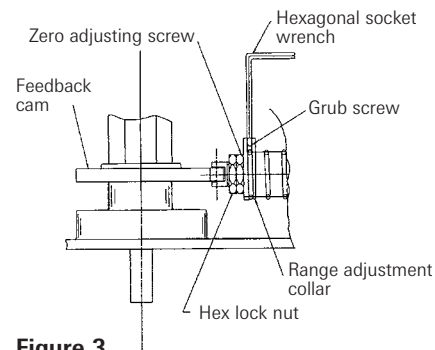

Figure 3
6. If the actuator does not reach the OPEN position at 15 psig, this is indicative of the spring rate being too high. Loosen the grubscrew in the range adjustment collar, (see Fig. 3), hold the collar stationary using a hexagon socket wrench, and turn the spring slightly clockwise. This will move the actuator even further away from fully OPEN and the zero adjusting screw must be used to achieve fully OPEN.